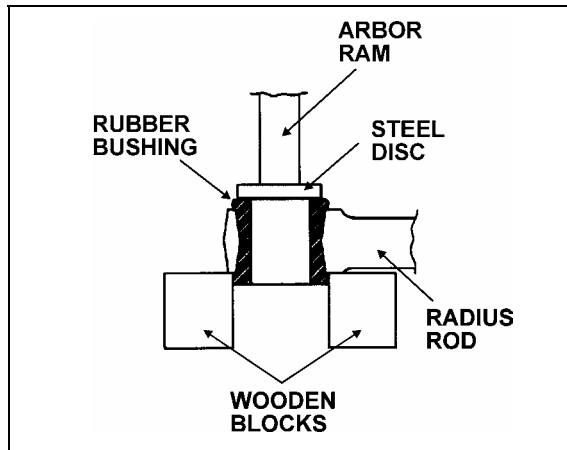

FIGURE 7: RADIUS ROD BUSHING REMOVAL 16011
1. Safely support the radius rod as shown in figure 7.